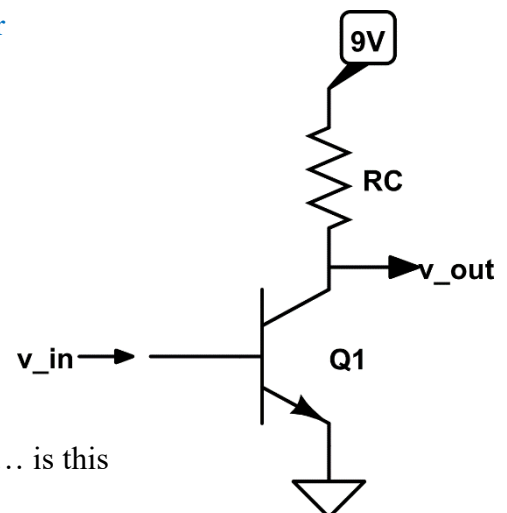

Fig 1:
Fig 1 shows the basic structure of a voltage amplifier circuit. In principle, since $I_c = \beta I_B \rightarrow V_{out} = V_{CC} - I_c R_C$ But Fig 1 is just a ‘conceptual skeleton circuit’.
3) Is it OK to connect Q1-E terminal directly to GND as shown in Fig 1? Why not? Explain what type of non-linearity is expected if Q1-E is at GND. **2**